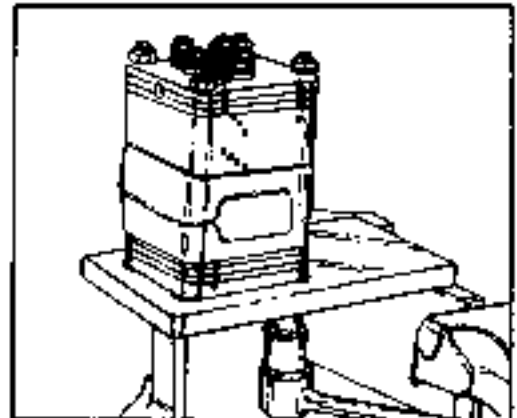

FIGURE 3.
1. To avoid distorting or damaging the unit, do not clamp it directly into a vise. Clamp a service assembly fixture described in figure 1, page 2-26, securely in a vise, see figure 3, and place the unit, input shaft/wheel tube first, into the service assembly fixture. Attach the unit to the fixture with four 5/16-24 UNF nuts. See figure 3.